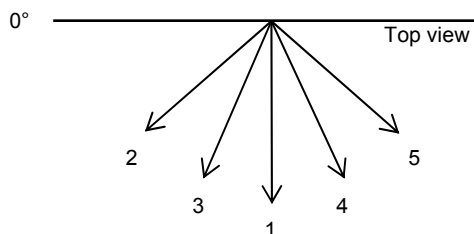

Figure 2
- For CS-E18GKD/GKE, manual vertical airflow direction can be set using remote control; the angles of the vane are as stated below and the positions of the vane are as Figure 2 above.